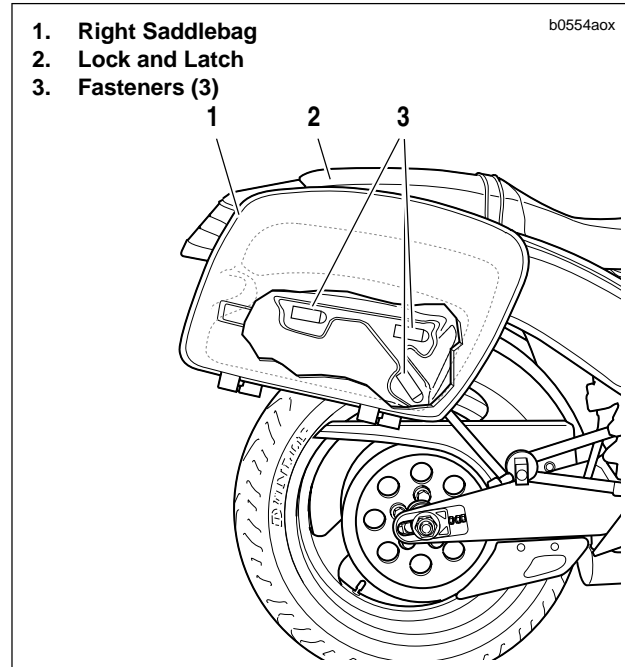

Figure 2-122. S3T Saddlebags
See Figure 2-122. Each saddlebag features a barrel-style lock and a removable saddlebag liner.
1. See Figure 2-122. Place ignition key in saddlebag lock (2). Turn key 1/4 turn.
See Figure 2-122. Three fasteners (3) attach each saddlebag to the support brackets.